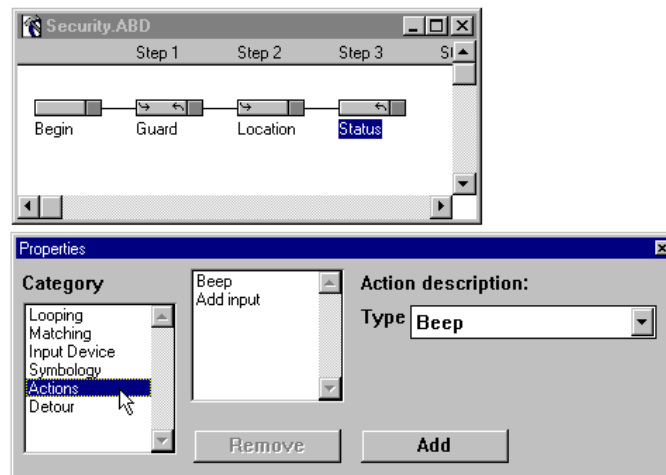

Figure 3-97 “Status” Handler - Actions Property
g) Select **Actions** in the **Properties** window (Figure 3-97).